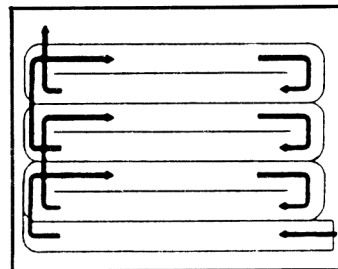

FIGURE 7
- Where possible, we recommend tilling in a pattern similar to that shown in Figure 7. Make the first pass, then skip a space equal to the width of the tiller, and make the return pass. Then till the skipped area. Tilling in this pattern will enable you to maintain better control. If the passes were made side-by-side, the tractor and tiller would tend to pull toward the tilled (soft) side.